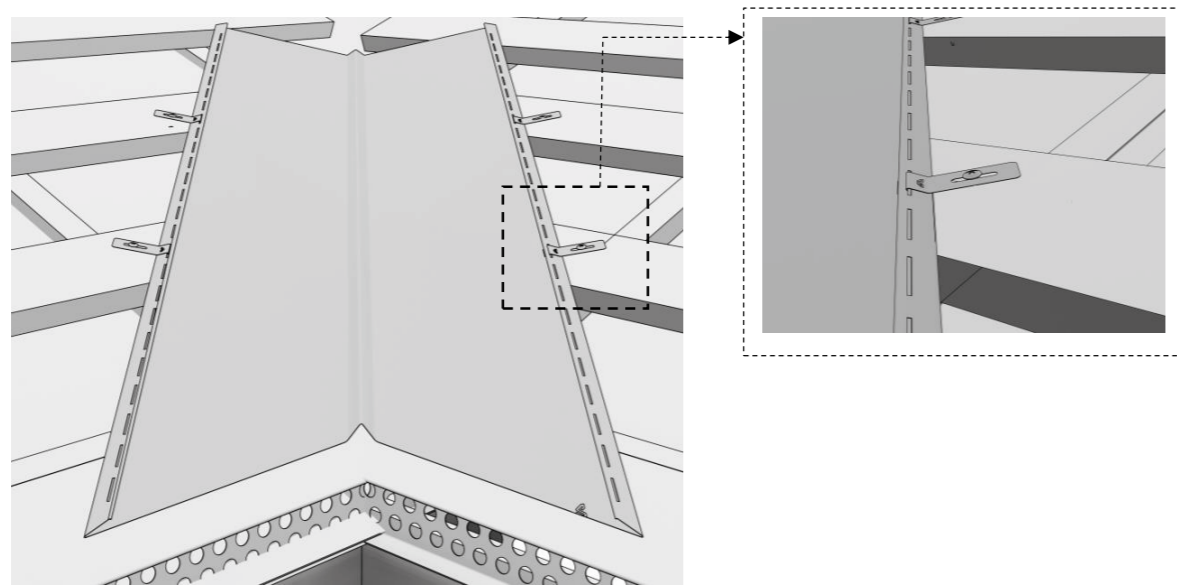

Fig. 17
- Cut and adjust the flashing on the eaves side (Fig. 17).
- Use clips to install the flashings (Fig. 17). This solution eliminates the need for the holes being drilled in the drainage plane.